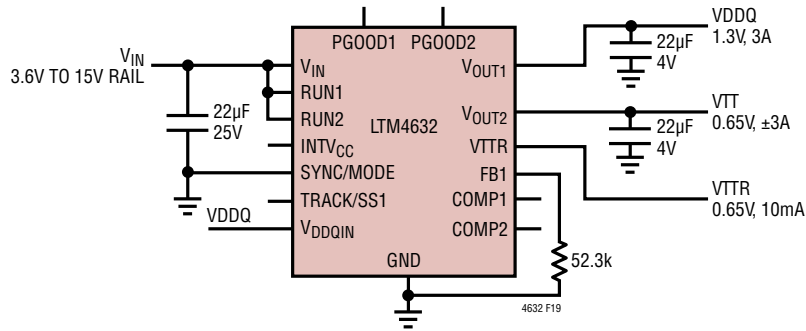

Figure 19. 3.6V to 15V Input, 1.3V/3A V_{DDQ} , 0.65V/±3A V_{TTR} and 10mA V_{TTR} Design
**Table 5. Output Voltage Response for Each Regulator Channel vs Component Matrix (Refer to Figure 19)